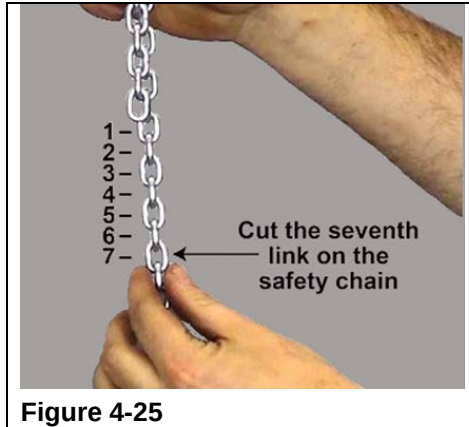

Figure 4-25
- Step 32. Count down seven links from the end of the load chain. Cut the seventh link so the SDS chain is six links longer than the load chain. (Refer to Figure 4-25)